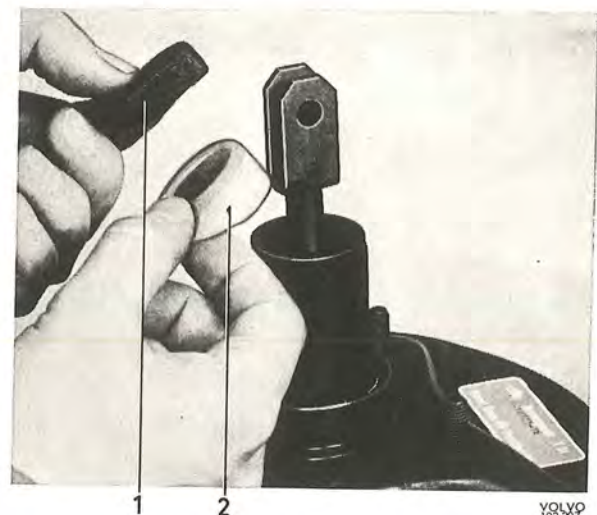

Fig. 5-76. Replacing the cleaner and damper
7. Remove the damper (1, Fig. 5-76) and the air cleaner (2).